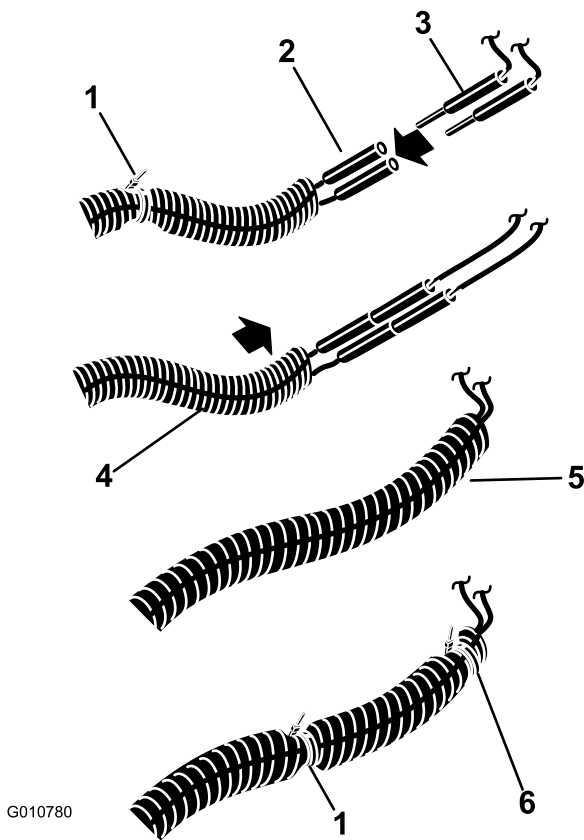

Figure 5
5. Connect the lamps to the accessory harness (Figure 5).